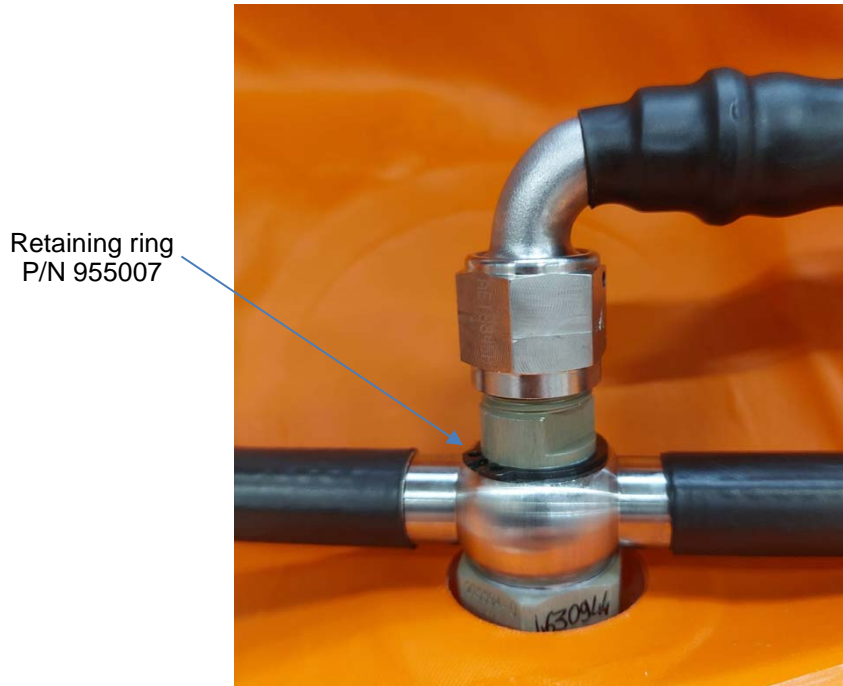

Figure 2 – Retaining ring location
- (3) Do the inspection of the supply hose / central supply coupling connection for presence of the retaining ring (refer to Figure 2):